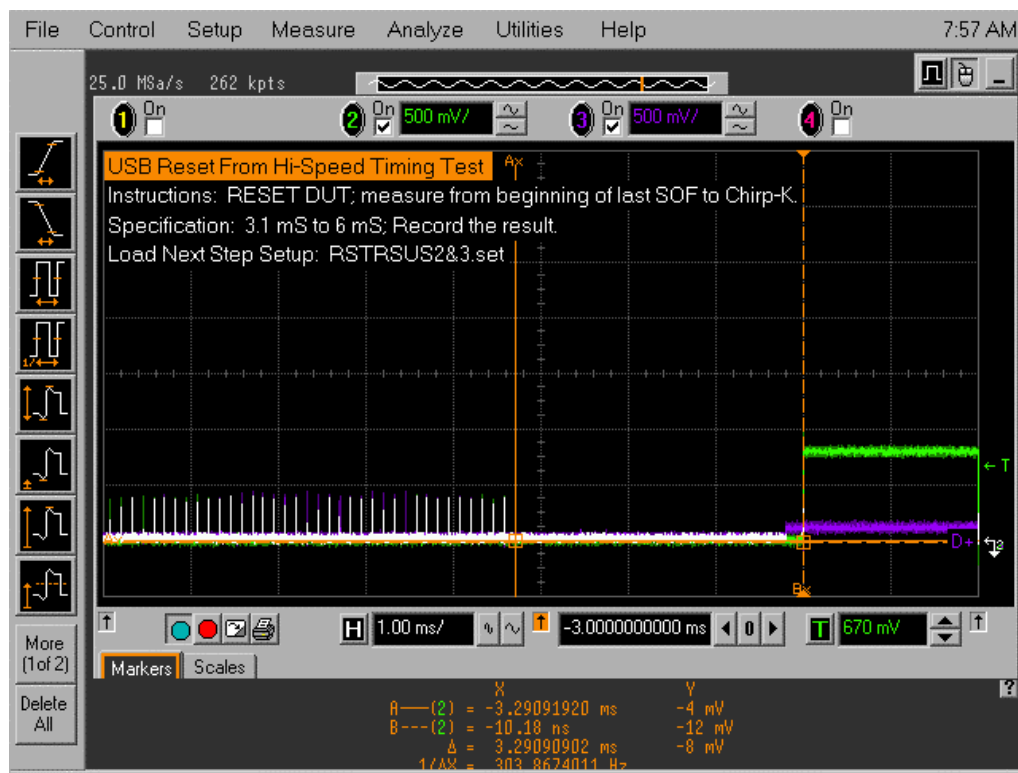

Figure 49. Hub's Chirp-K in Respond to Reset from High-speed
- b. The captured resume transition should appear as in Figure 49
- a. Using the markers, measure the time between the beginning of the last SOF before the reset and the start of the device Chirp-K. (Figure 49)